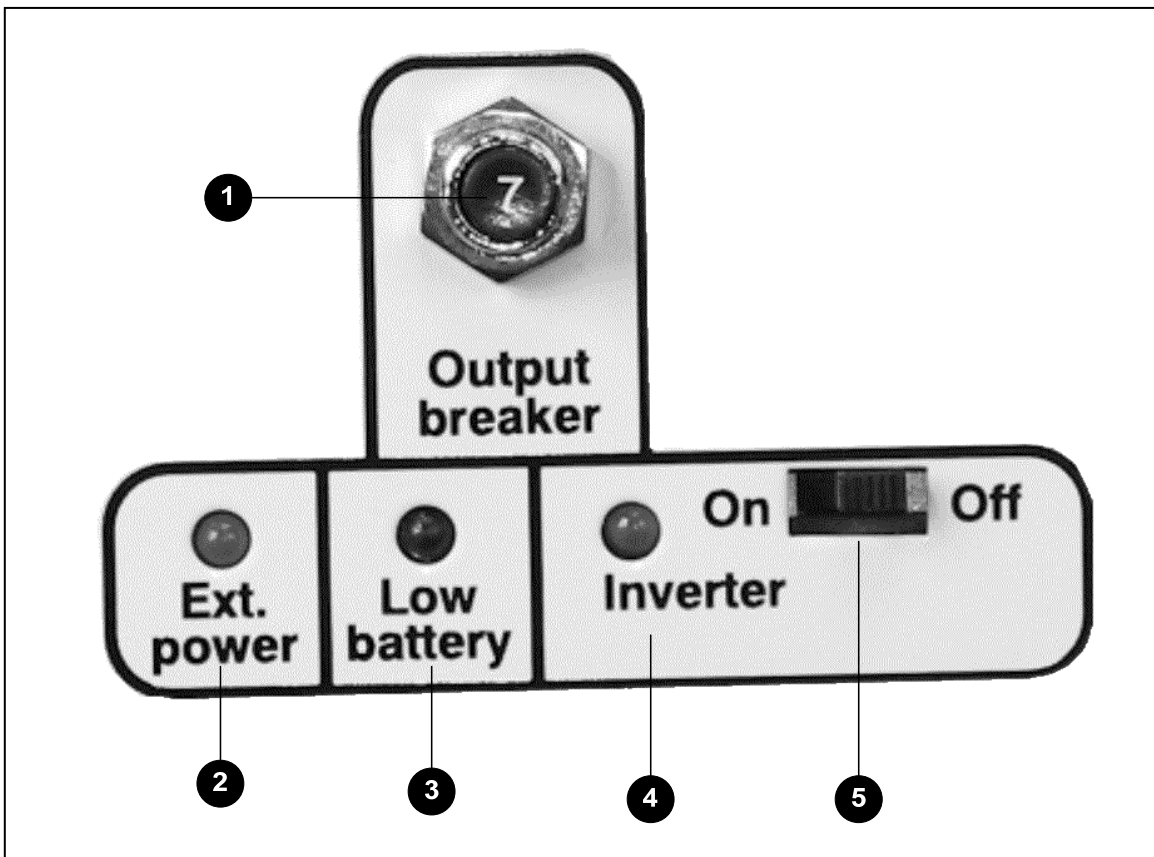

FIGURE 2: Control Panel Description
- (1) **Bonding Lug:** Connects to the ground system.
- (2) **Cooling Fan:** Thermostatically controlled fan triggers only when necessary to cool down inside electronics.
- (3) **DC input wire lead – RED (+):** Connects to the positive (+) fused side of the battery bank.
- (4) **DC input wire lead – WHITE (-):** Connects to negative (-) side of the battery bank.
- (5) **Remote On/Off Switch hookup:** Connects to an optional customer supplied remote On/Off switch.
- (6) **LED Status Control Panel:** Provides inverter status (See figure 2 on page 7)
- (7) **GFCI Outlets:** 120VAC Output.